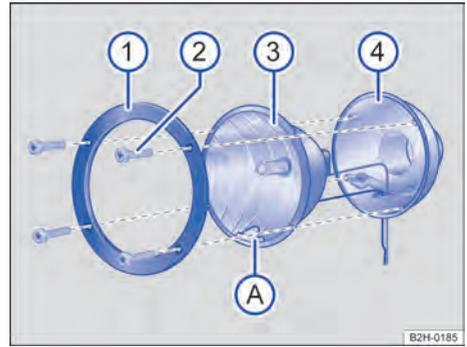

Fig. 167 Additional light on the vehicle roof: replacing the lens.
2. Use the screwdriver from the vehicle toolkit to undo the screws → Fig. 167 ②.
3. Remove the retaining ring → Fig. 167 ① from the reflector → Fig. 167 ③.
4. Take the reflector → Fig. 167 ③ out of the headlight housing → Fig. 167 ④.
12. Insert the reflector housing → Fig. 167 ③ into the headlight housing → Fig. 167 ④. The marking → Fig. 167 (A) must face downwards → ①.
13. Place the retaining ring on the reflector → Fig. 167 ①.
14. Use the screwdriver to tighten the screws → Fig. 167 ②.